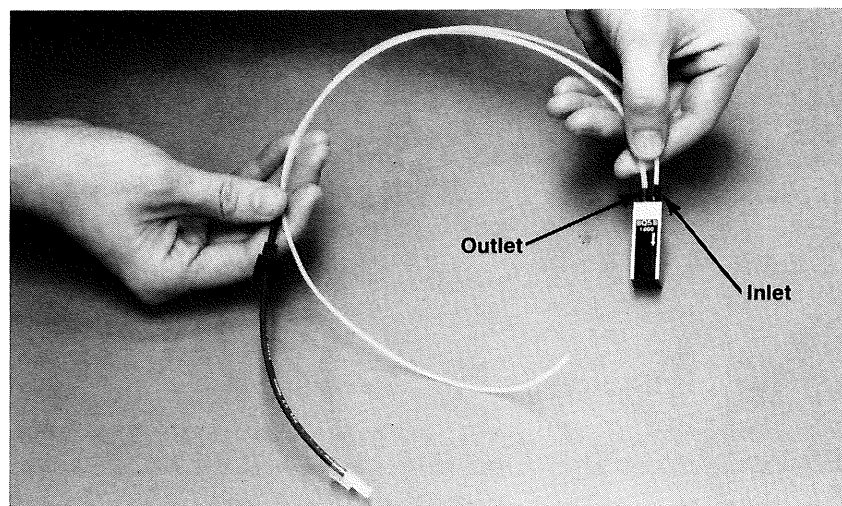
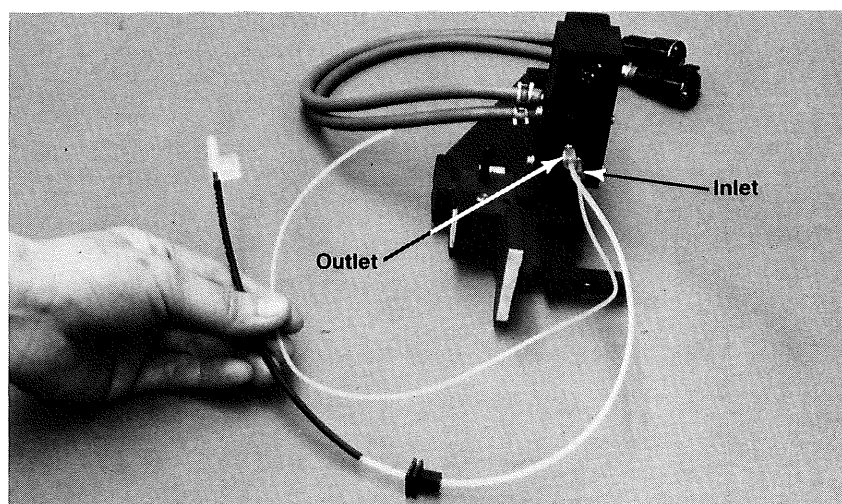

Figure 11a.
Figure 11b.
14. Attach inlet and outlet tubing to the flowcell, as shown in Figure 11a for the unheated flowcell and Figure 11b for the Peltier flowcell.